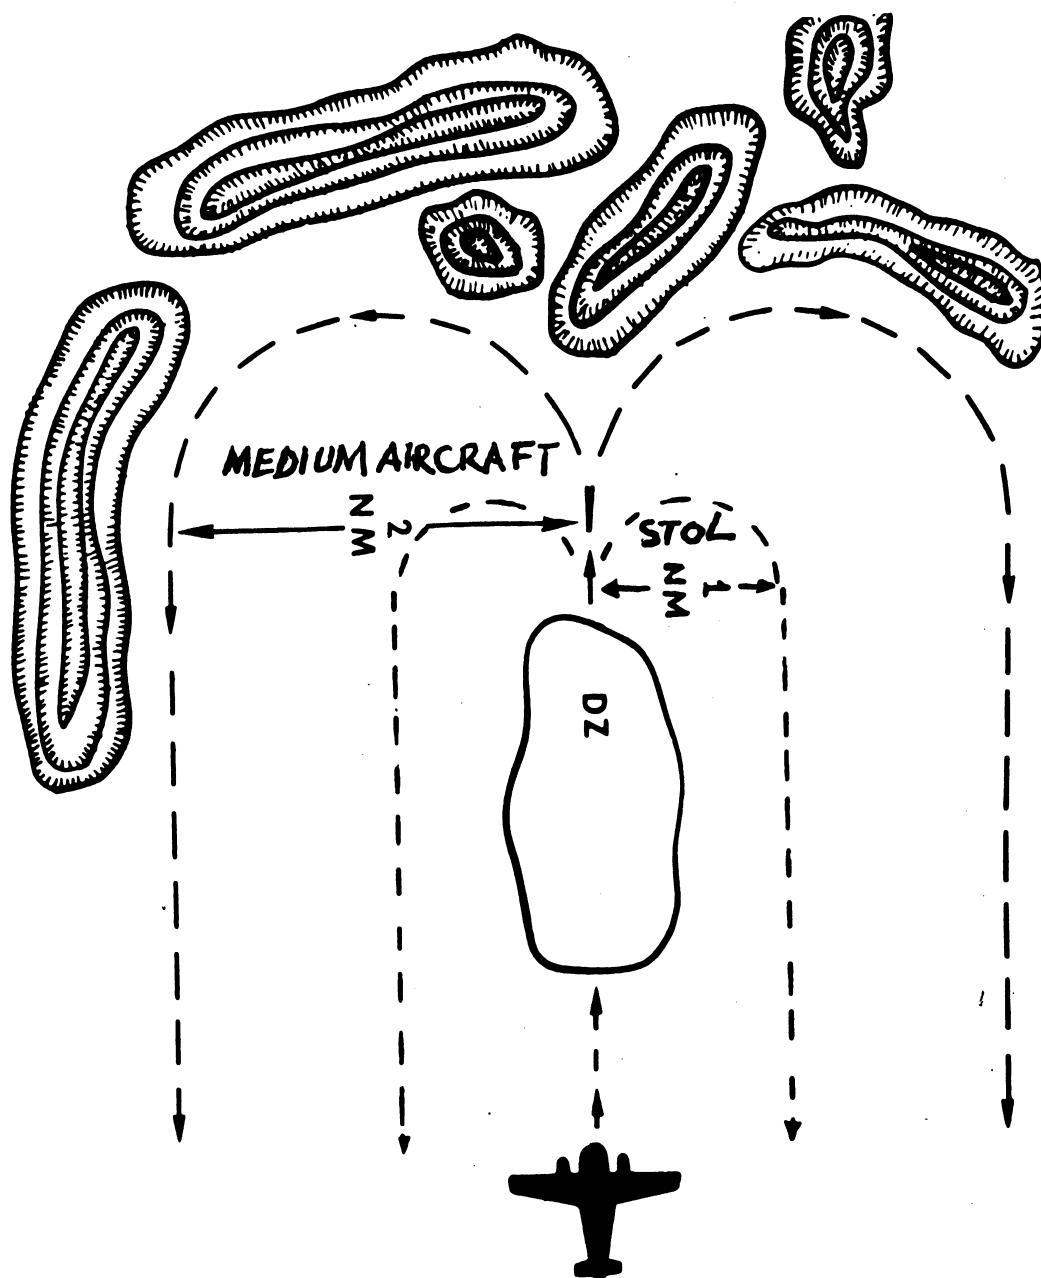

Figure 2. Level turning radius required for one-approach DZs.
(2) Turning radius. DZs having a single clear line of approach are acceptable, provided there is a level turning radius (2 nautical miles on each side of the site for medium aircraft; 1 nautical mile for STOL aircraft) (fig. 2).